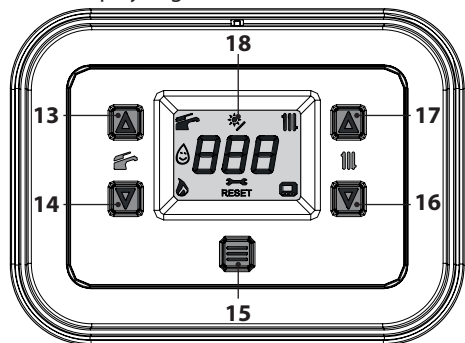
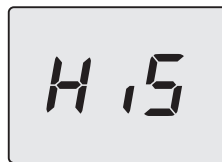
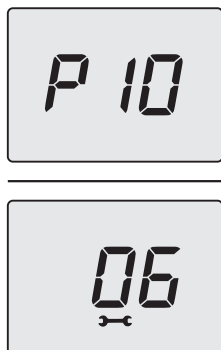
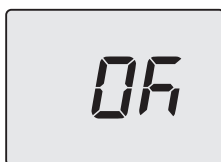

Figure 5.47
Figure 5.48
Figure 5.51
Figure 5.52
- Enter “programming mode” by pressing the 14 and 16 buttons simultaneously for 5 seconds (Figure 5.47) until **HiS** (in reference to the “Boiler History” menu) appears on the LCD display (Figure 5.48).
- Press the 15 button for 1 second (Figure 5.47) to open the selected parameter. The display will show the following (6=60 seconds) (Figure 5.51).
- Press button 15 (Figure 5.47) to confirm the value entered. The display will show the following (Figure 5.52) for 5 seconds, then move up to the next level.
- press the 14 and 16 keys simultaneously for 5 seconds (Figure 5.47) (return to previous level).